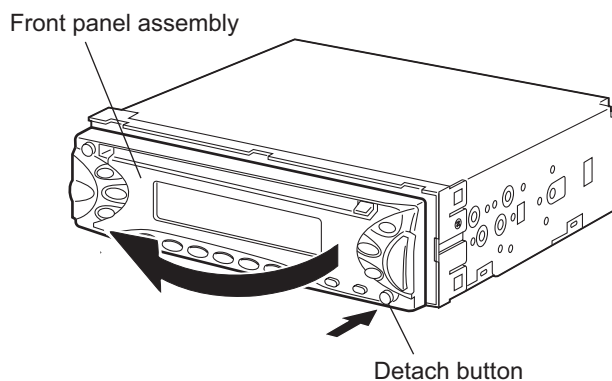

Fig.1
2.1.1 Removing the front panel assembly (See Fig.1)